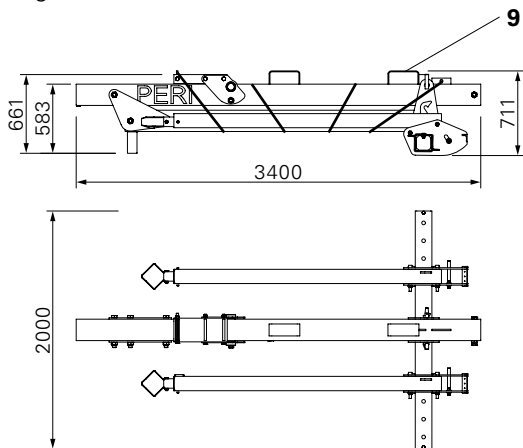

Fig. 5
- pull the 2-sling lifting gear through the forklift pockets (9) and connect crane hook (Fig. 5 + 9), or
- accommodate Table Lifting Fork in the forklift pockets or with the forklift forks accordingly. (Fig. 5 – 9)
(Fig. 5)